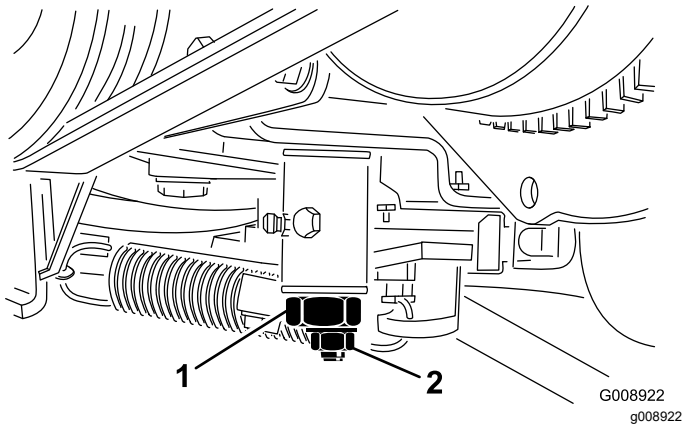

Figure 56
4. Loosen the locknut on the traction adjustment cam (Figure 56).